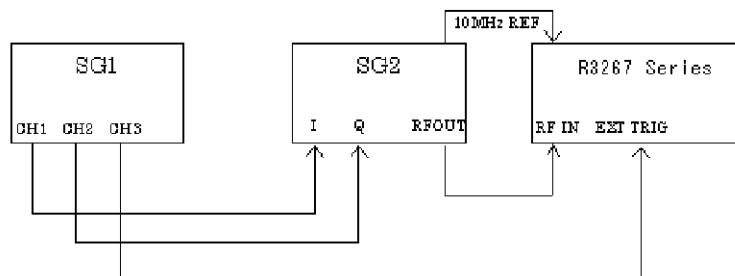

Figure 6-2 Setup of Waveform Quality Test for Forward Link
1. Connect equipment as shown in Figure 6-2.